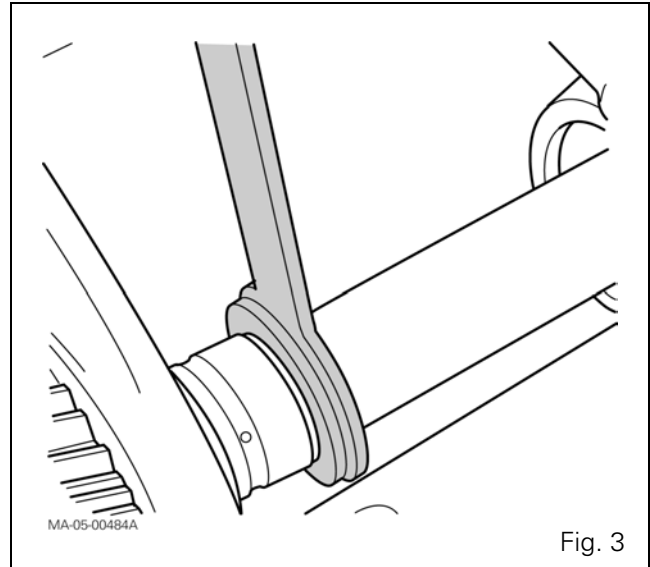
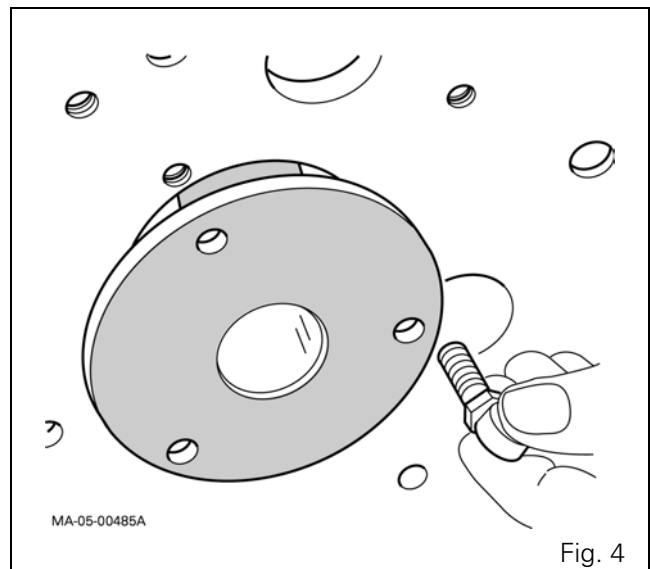
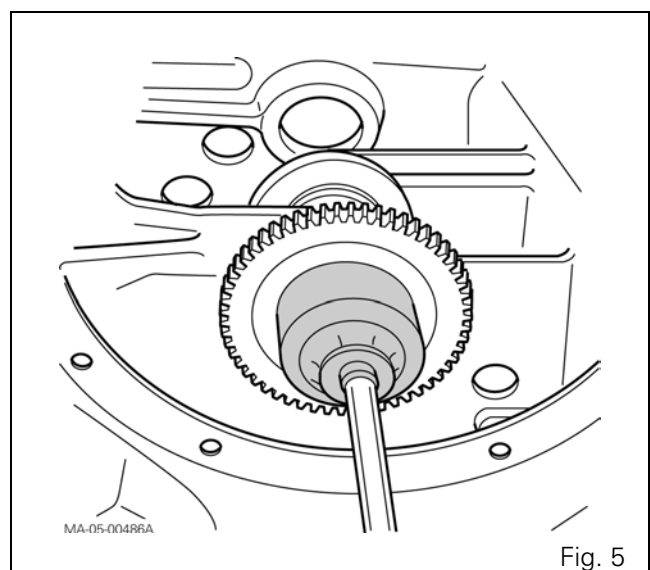

Fig. 3
Fig. 4
Fig. 5
10. Position locking tool 3378082M1 (Fig. 3) and the holding sleeve of shaft (69) (Fig. 4), made locally (see § E).
11. Remove lubricating pipe (71) and spring (72).
12. Remove the safety device from nut (68) and loosen with socket 3378010M1 (Fig. 5 et § E).
13. Remove drive pinion (67) with cone (1).
14. Remove washers (6) and shim(s) (3).
15. Remove the tool and sleeve (Fig. 3 - Fig. 4).
17. Remove 1st, 2nd pinion and synchromesh (11) assembly with ring (8). Remove cups (16) and (2).
27. Install locking tool 3378082M1 (see § E) and locally made holding sleeve (Fig. 3 - Fig. 4).
28. If removed, fit the cone (1) on the pinion (67), using a press and a suitable tool.
29. Install washers (6) separated by a number of shims (3) sufficiently thick to obtain a temporary clearance of **0.10 to 0.15 mm** approx in preparation for shimming with preload (see later).
30. Install pinion (67) on shaft (69).
31. Screw in the nut (68) using the socket 3378010M1. Tighten to a torque of 130 - 170 Nm (Fig. 5).
32. Remove the tool and sleeve (Fig. 3 - Fig. 4).
39. Install the locking tool and the holding sleeve (Fig. 3 - Fig. 4).